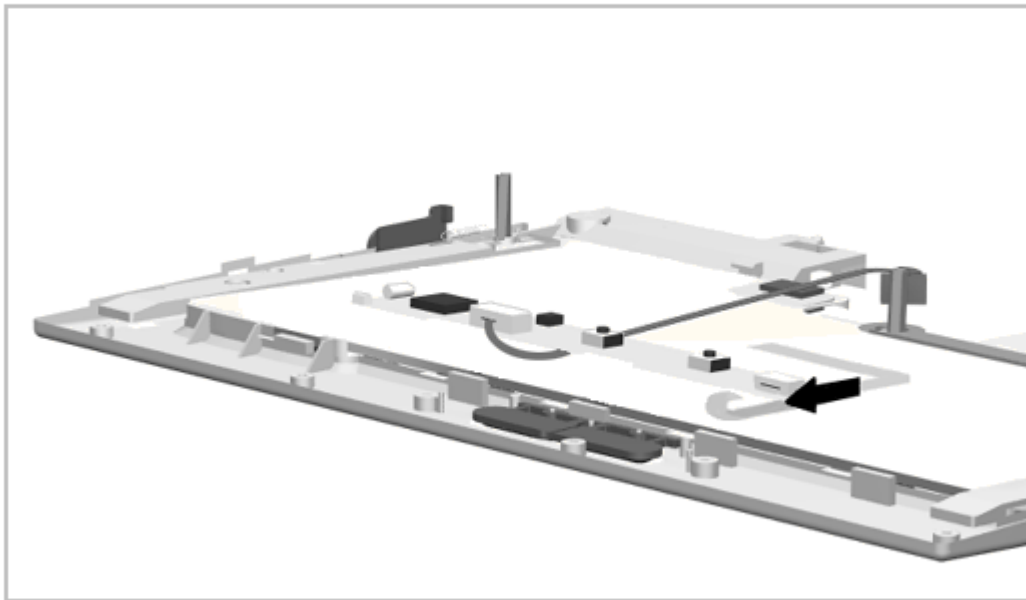

Figure 5-41. Disconnecting the EasyPoint II Controller
3. Disconnect the cable from the ZIF connector on the EasyPoint II Controller (Figure 5-41). The ZIF connector is located on the back side of the controller board.